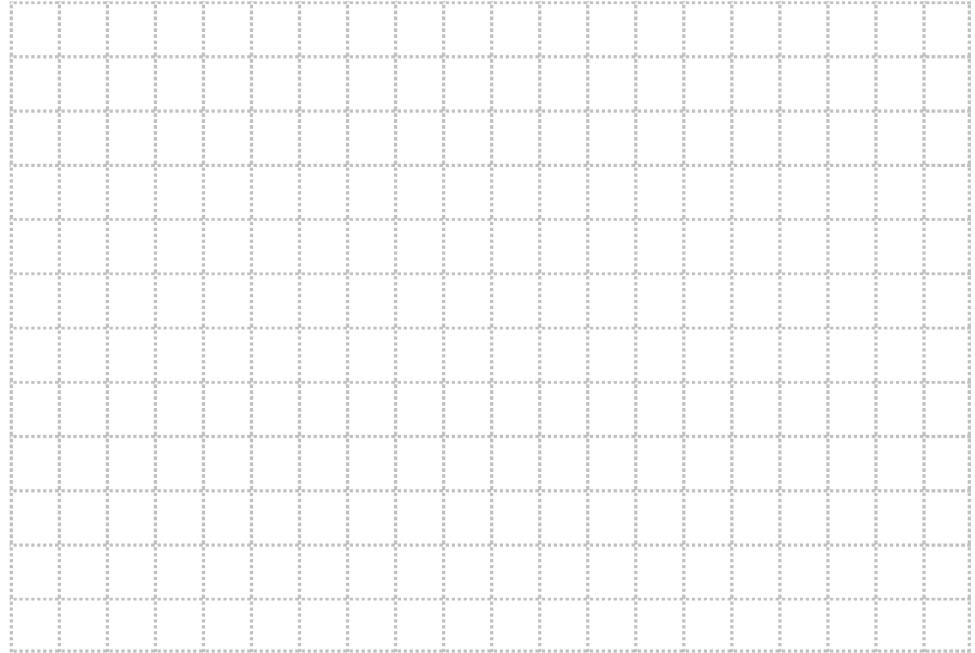

Figure 1-7. Head versus flow rate.
- 16. Plot the head versus flow rate curves in Figure 1-7.